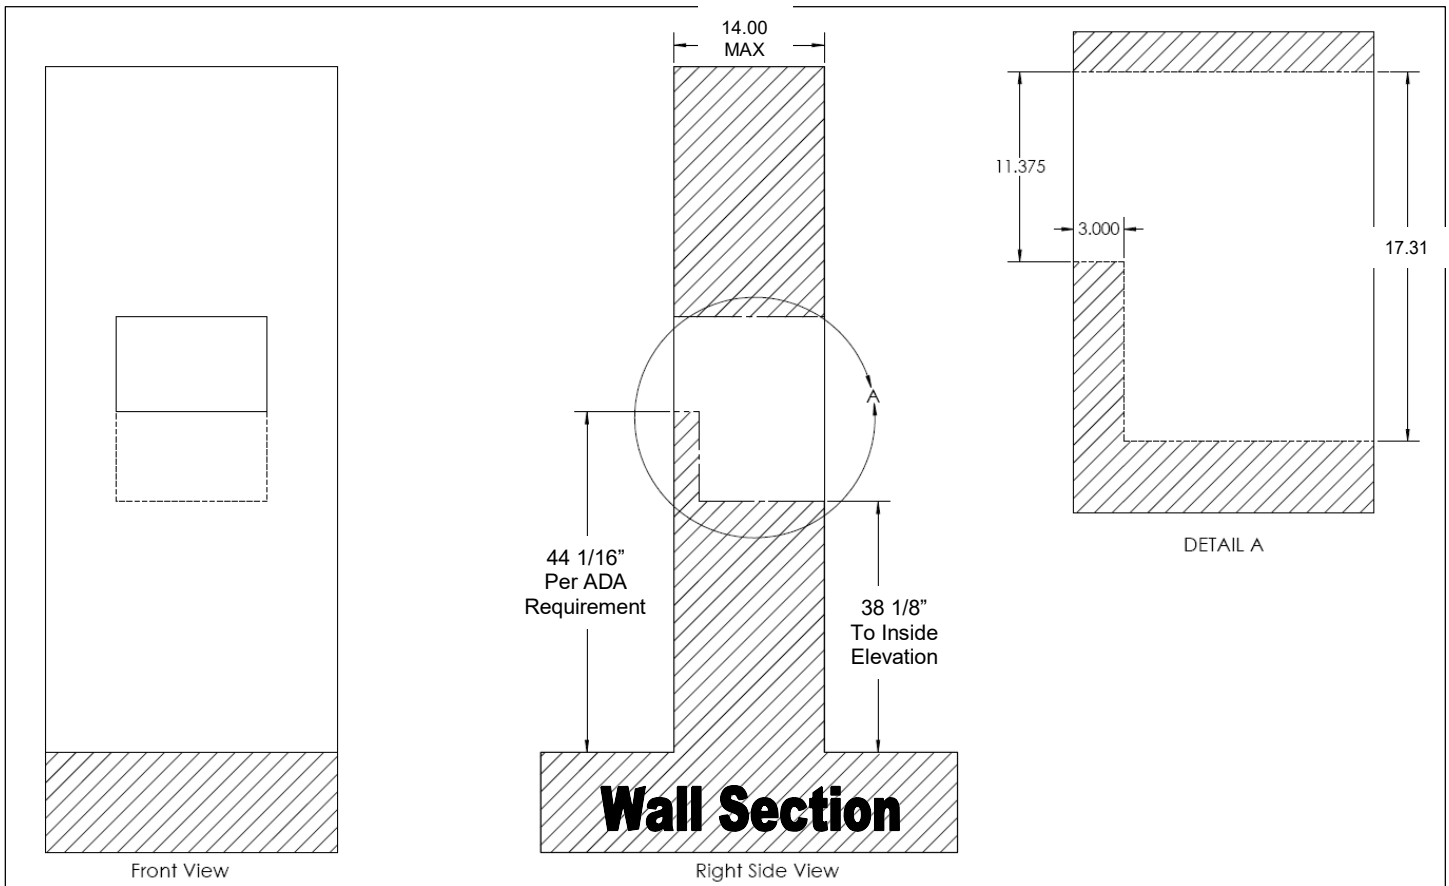
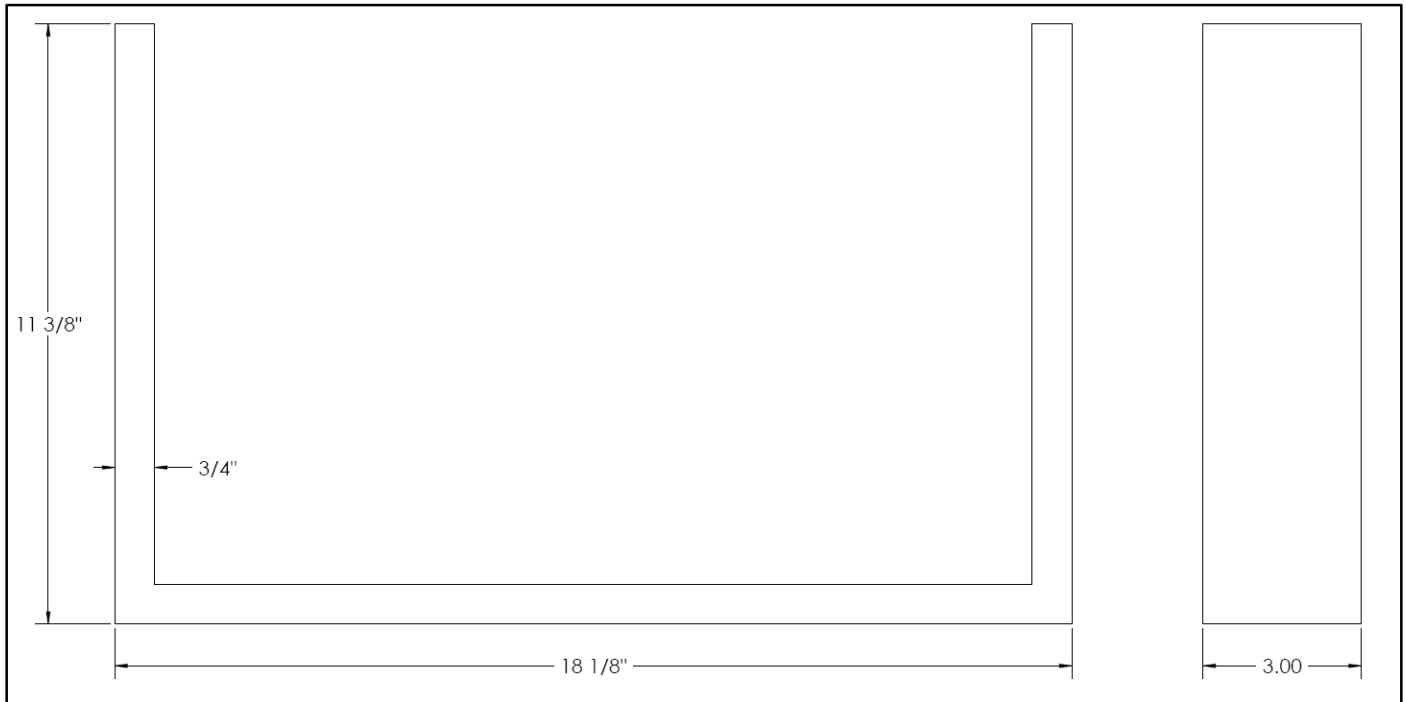

Figure 1. Internal Wall Cutout
Figure 2. Internal Framing constructed of 3/4" wood
Step 1: Complete the wall cutout according to Figure. 1 below.
Step 2: Once the Wall Cutout has been completed as shown in Figure. 1, make the wall framing as shown in Figure 2.